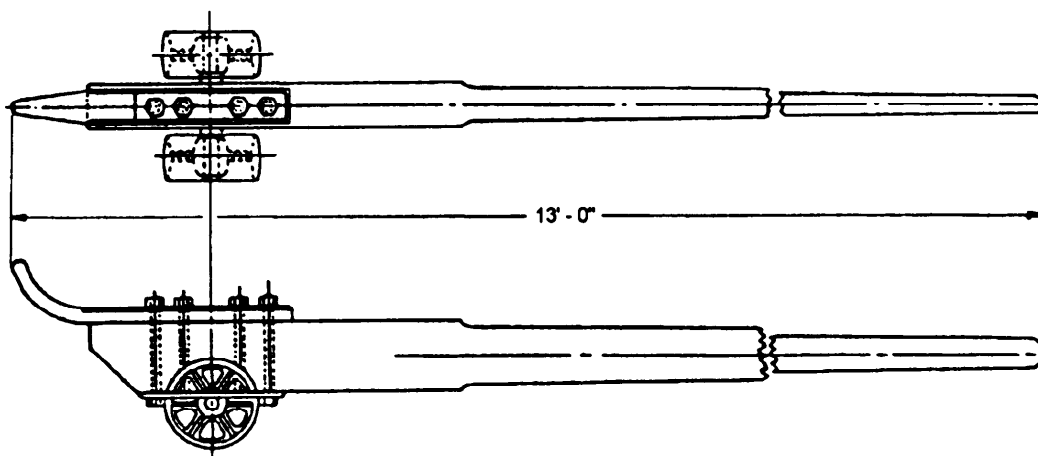

Figure 4-11.—Cable jack.
- **CHAIN CABLE JACKS.** A cable jack (fig. 4-11), consisting of a lever mounted on an axle and two wheels, is used to handle anchor chain in sizes 2 3/4 inches and above. It is used to pick the chain up to pass a chain stopper. A pinch-point crowbar type of anchor bar is issued for smaller sizes of chain.